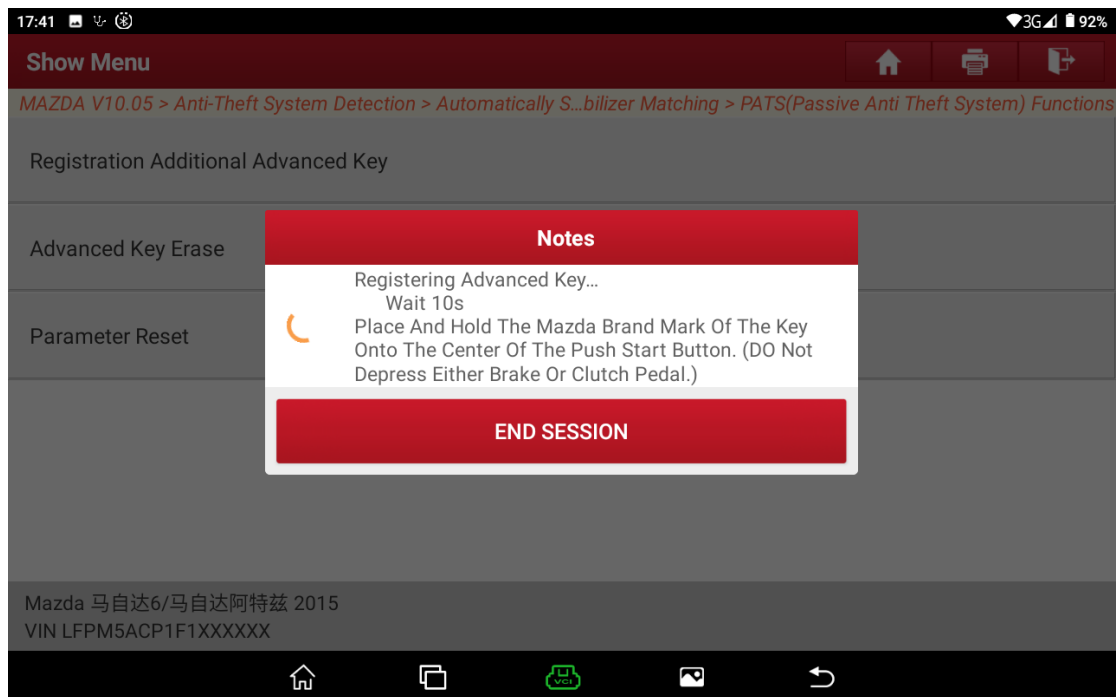

Figure 22
20. Registering...Please wait for 10s. See Figure 22.